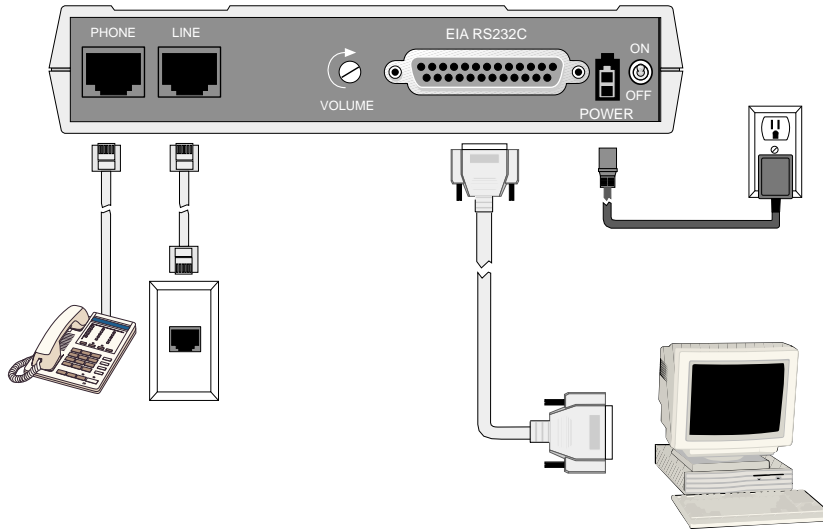

Figure 2-2. MultiModemBA/BAI Connections
- 3 Connect the modem to a dial-up line by attaching the RJ-11 telephone cord (provided with your unit) to the **LINE** connector on the modem and to a dial-up wall jack. Refer to Figure 2-2.
- 4 Attach the **EIA RS-232C** connector on the modem to the serial port on your computer or terminal with an RS-232 (or V.24) cable (you supply). Refer to Figure 2-2.
- 5 To connect a telephone set to the modem (optional) plug one end of an RJ-11 phone cord into the **PHONE** connector on the modem, and plug the other end into your telephone. Refer to Figure 2-2.
- 6 Attach the AC Power transformer provided with your unit to the **POWER** connector on the modem and to a live AC outlet. Refer to Figure 2-2.
- 7 Apply power to the unit by setting the **ON/OFF** switch at the rear of the modem to the **ON** (Up) position. Refer to Figure 2-2.